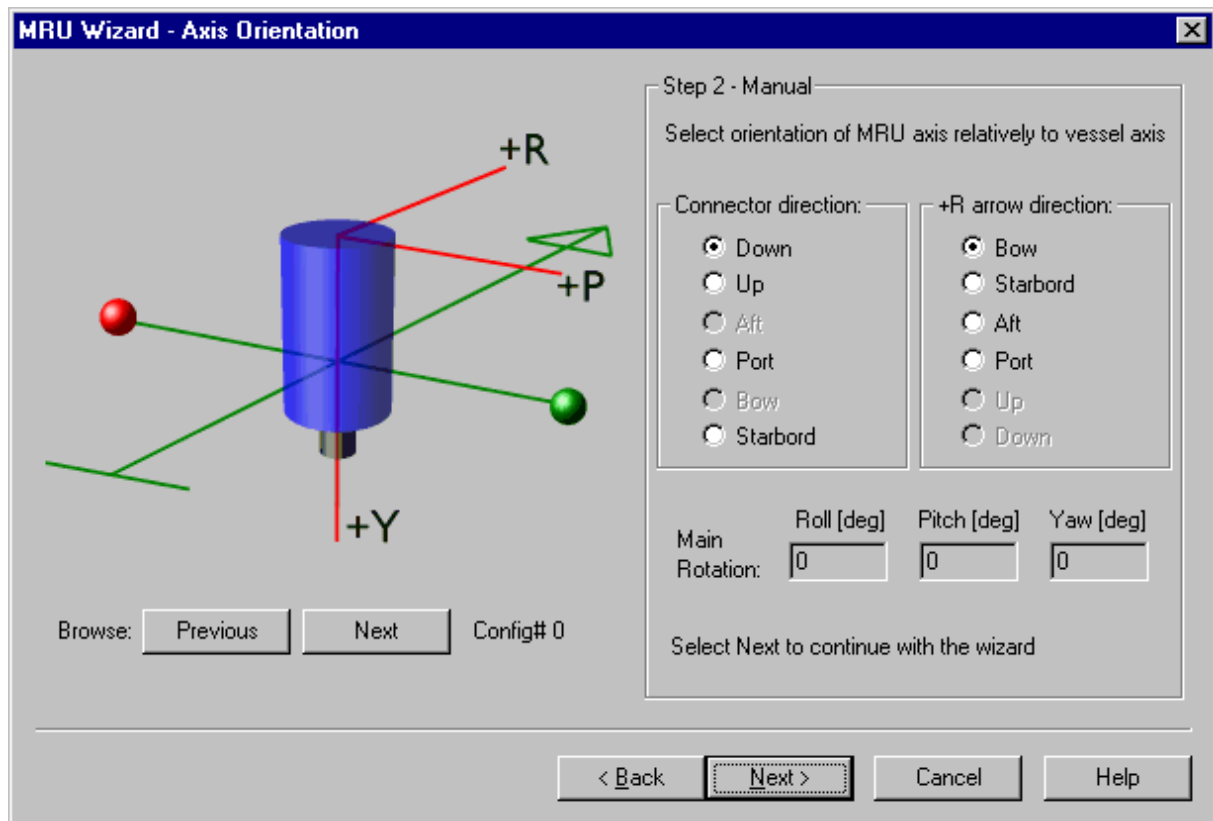

Figure 46 Step 2 of Manual MRU Axis Orientation
- Manual setup selected in Step 1. Click **Next** to go to the **Step 2 –Manual** window as shown in Figure 46. Click the **Previous** or **Next** buttons in the left part of the window to turn the MRU unit around in 90-degree steps, axis by axis. Click until the correct mounting orientation of the MRU has been found. The right part of the window is automatically updated with the actual main rotation of the MRU.